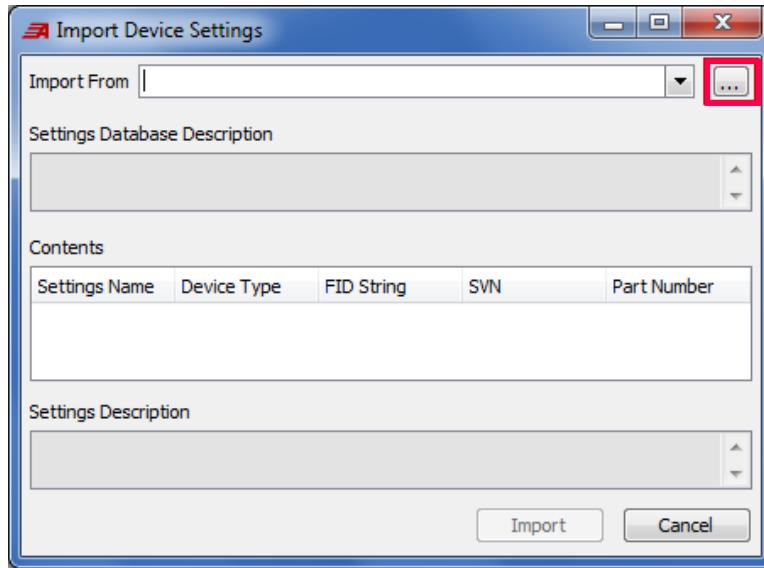

Figure 2.27 Import Device Settings
Step 16. Click the ellipses (...) to the right of **Import From** (see *Figure 2.27*).